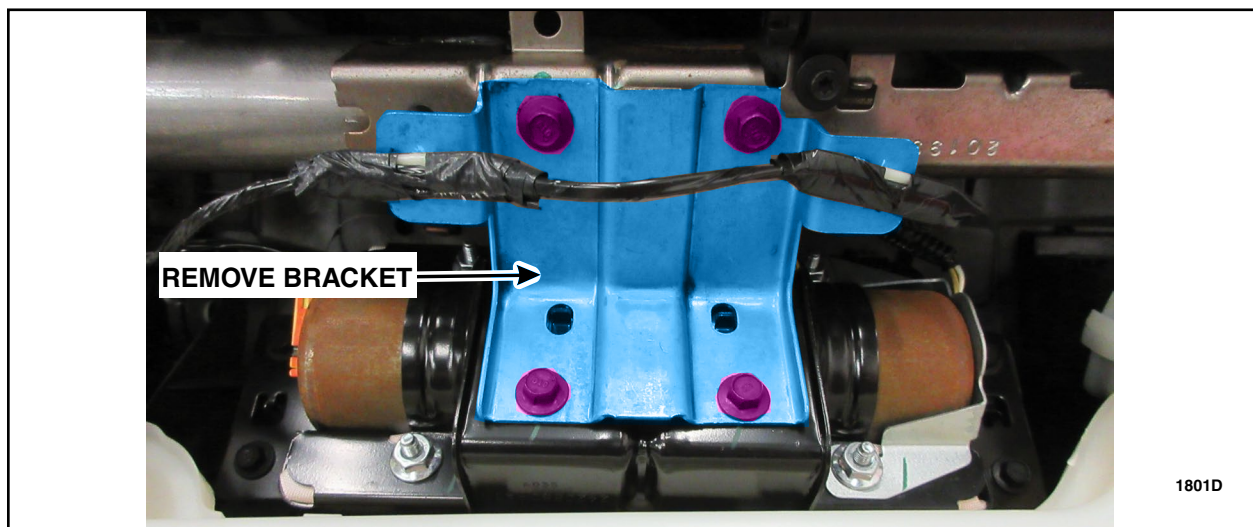

FIGURE 7
- Remove the instrument panel crossmember-to-airbag module bracket. See Figure 7.
- Install the instrument panel crossmember-to-airbag module bracket. See Figure 7.